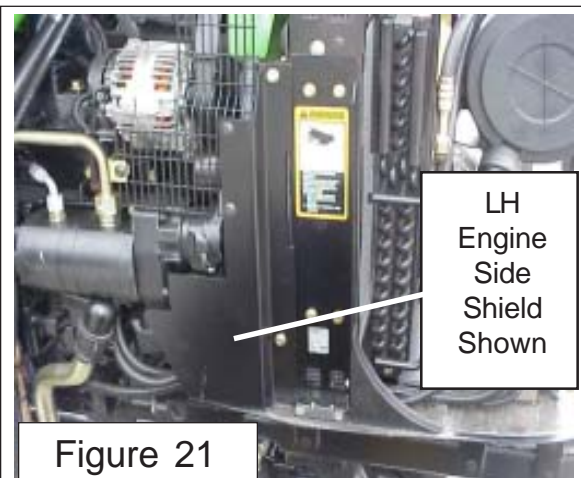

Figure 21
15. Re-install Engine Side Shields. Re-install LH and RH side engine shields that were removed. Use the same mounting hardware that was removed (See Figure 21).